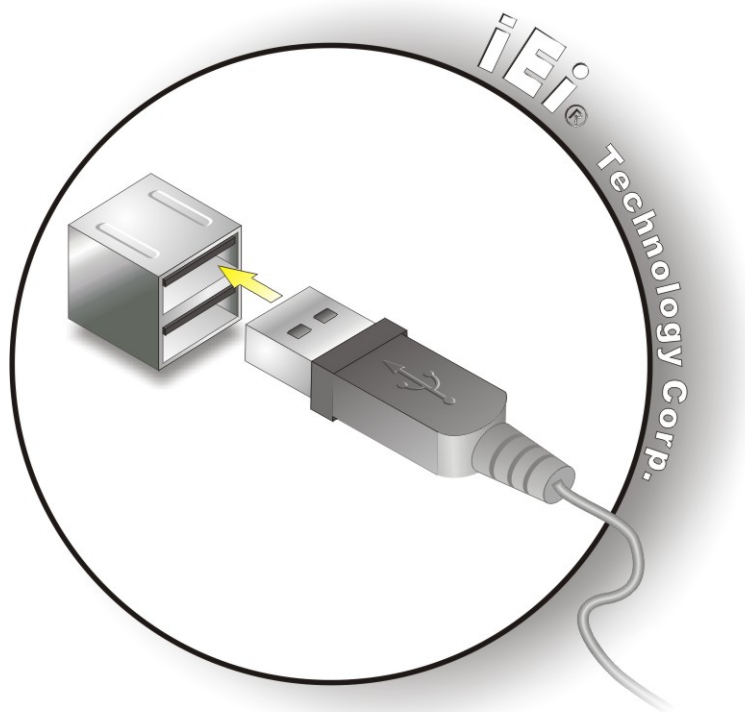

Figure 3-15: USB Device Connection
Step 2: Align the connectors. Align the USB device connector with one of the connectors on the bottom panel. See **Figure 3-15**.